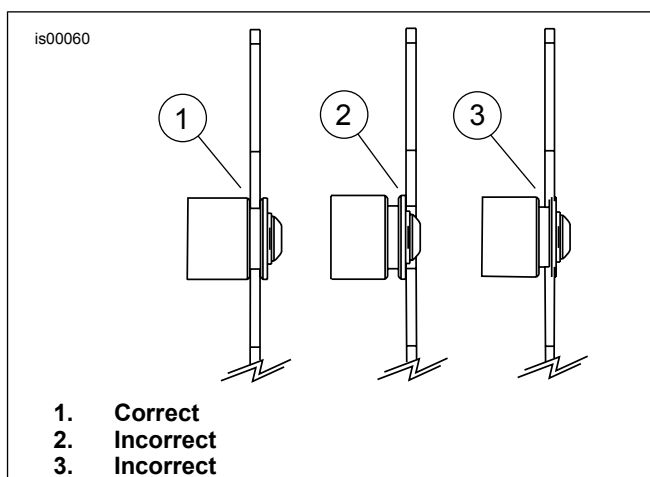

Figure 2. Upright Notch to Docking Point Engagement
- See Figure 2. Check for correct notch engagement.
- See Figure 2. Confirm that notches are engaged.